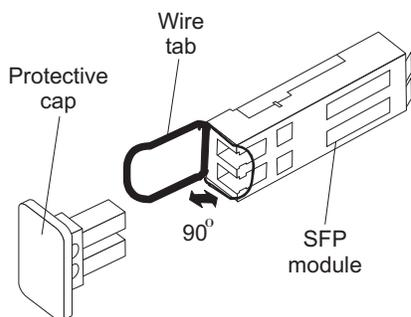

Figure 31. Unlocking the SFP module latch - wire variety
- For SFP modules that contain wire tabs, unlock the SFP module latch by pulling the wire latch outward 90°, as shown in Figure 31 on page 50.